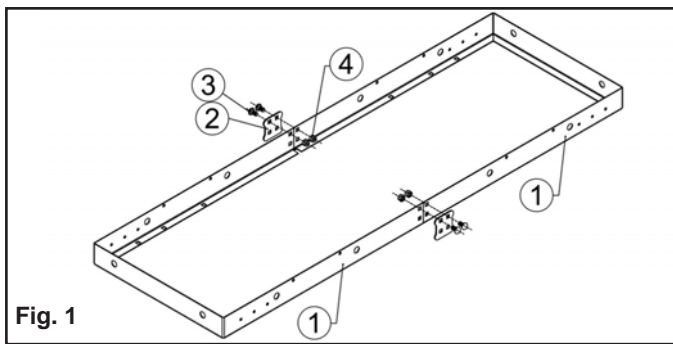

Fig. 1
1. **Figure 1:** Bring both halves of the frame (part# 1) together. Align the holes on the side of each half of the frame with the holes in the connecting plates (part# 2).
2. **Figure 1:** Thread four (4) M10x20 carriage bolts (part# 3) through the top two (2) holes on each of the connecting plates, and through the holes in the frame halves. Hold them in place with M10 lock nuts (part# 4). **Note: Do not fully tighten these bolts until step 8.**